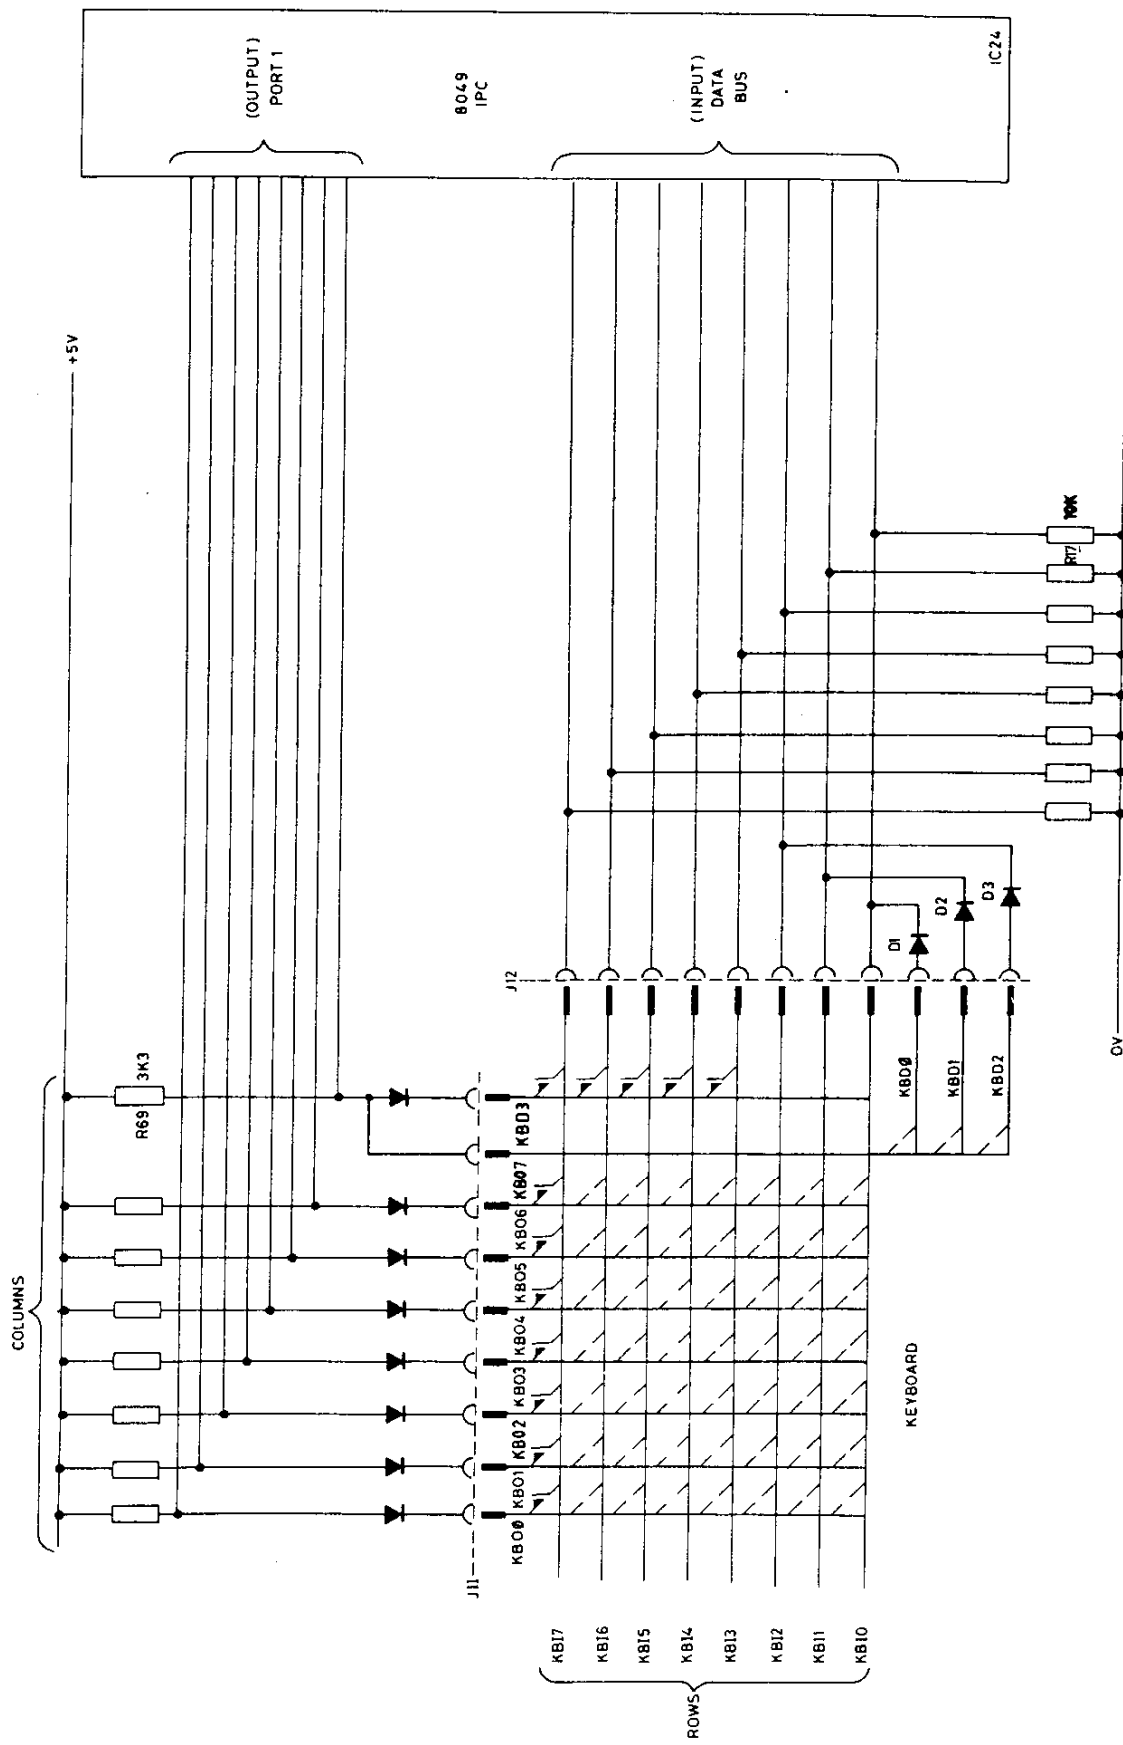

FIGURE 1.2 KEYBOARD MATRIX INTERCONNECTIONS
- 4.12 **Keyboard Monitor.** Under program control the 8049 systematically scans the keyboard, recording which keys have been pressed. Figure 1.2 shows the way the keyboard is connected. It consists of an 8 x 8 matrix with one key, the shift key, connected to three input lines. The intersection of each row and column is bridged by a normally open contact. Pressing the key closes this switch. The row 'outputs' and column 'inputs' are shown connected to separate connectors J11 and J12, one to the port 1 outputs of IC24 and the other to the data bus inputs. Pull-down resistors R17 to R24 ensure that when none of the key-switches are closed row inputs KB00 to KB07 remain low.